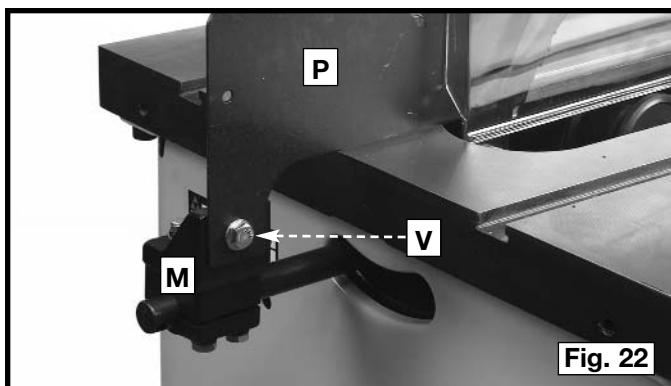

Fig. 22
9. Insert the front end of splitter (P) Fig. 21, inside the splitter mounting bracket, behind the splitter fastener plate and the screw (C). Push the splitter down as far as possible, making certain that the bottom edge of splitter (P) is parallel with the table surface. Tighten the screw (C). Fasten splitter and blade guard assembly (P) Fig. 22 to the bracket (M) using a 5/16-18x1" hex head bolt (V) and 5/16" flat washer.